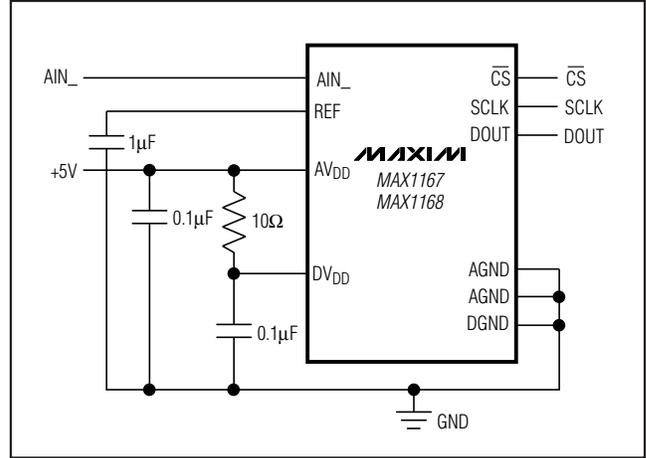

Figure 25. Powering AV_{DD} and DV_{DD} from a Single Supply
Use printed circuit (PC) boards with separate analog and digital ground planes. Do not use wire-wrap boards. Connect the two ground planes together at the MAX1167/MAX1168 AGND terminal. Isolate the digital supply from the analog with a low-value resistor (10 Ω) or ferrite bead when the analog and digital supplies come from the same source (Figure 25).